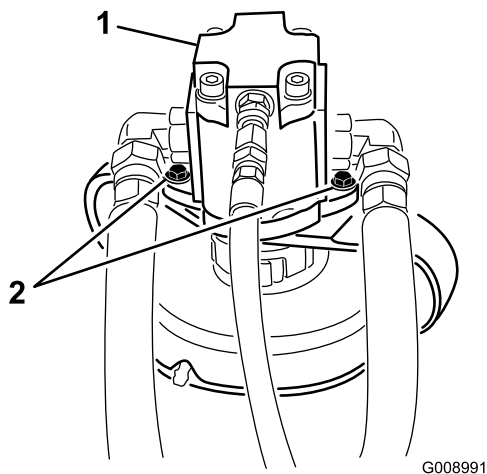

Figure 83
4. Remove the bolts securing the hydraulic motor to the cutting unit (Figure 83). Lift the motor off of the cutting unit and lay it on top of the cutting unit.
2. Remove the bolts securing the hydraulic motor to the cutting unit (Figure 83). Lift the motor off of the cutting unit and lay it on top of the cutting unit.